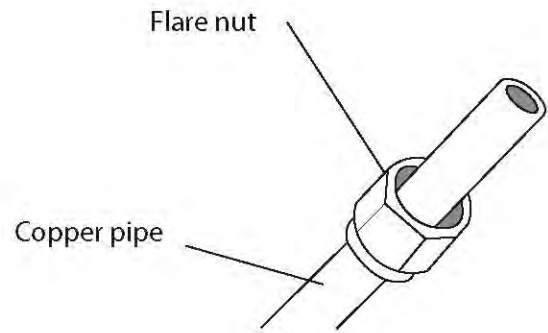

Fig. 5.3
3. **Place flare nuts** on both ends of pipe. Make sure they are facing in the right direction, because you can't put them on or change their direction after flaring. See Fig. 5.3.